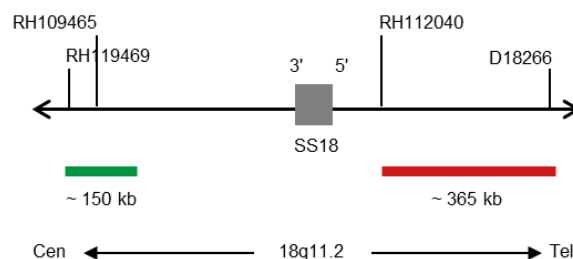

Fig. 1: SPEC SS18 Probe map (not to scale)
- Digoxigenin-labeled polynucleotides (~0.50 ng/μl), which target sequences mapping in 18q11.2* (chr18:23,109,942-23,262,464) proximal to the SS18 breakpoint region (see Fig. 1).
- Dinitrophenyl-labeled polynucleotides (~0.75 ng/μl), which target sequences mapping in 18q11.2* (chr18:23,772,255-24,137,169) distal to the SS18 breakpoint region (see Fig. 1).